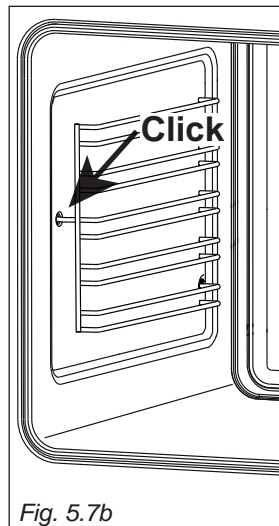

Fig. 5.7b
- Slide the front prong of the side rack into the holes at the front of the oven (fig. 5.7b).